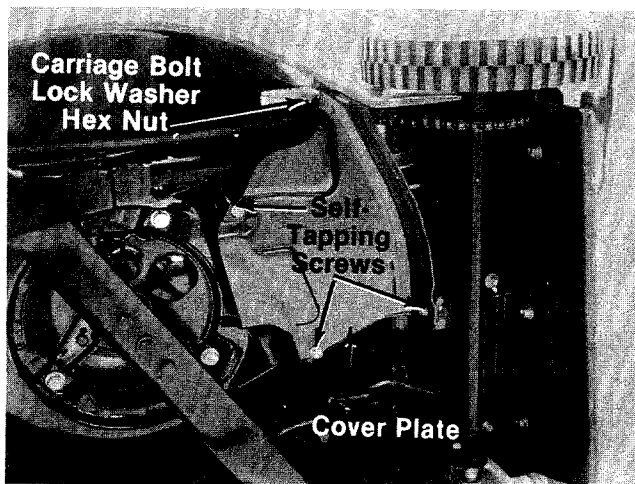

FIGURE 25.
5. Remove three self-tapping screws, and one carriage bolt, lock washer and hex nut from cover plate. See figure 25. Remove the cover plate.